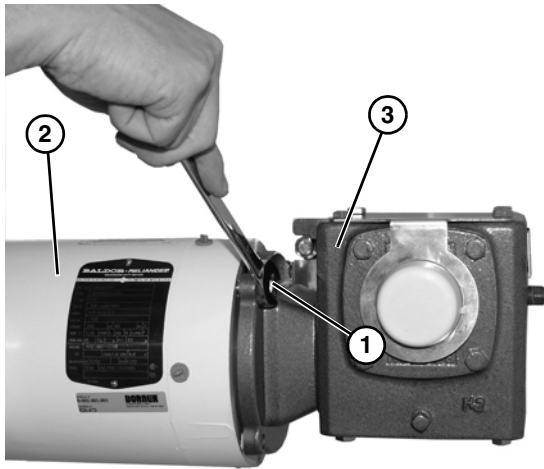

Figure 39
- Remove four bolts (**Figure 39, item 1**) securing motor (**Figure 39, item 2**) to gear reducer (**Figure 39, item 3**).